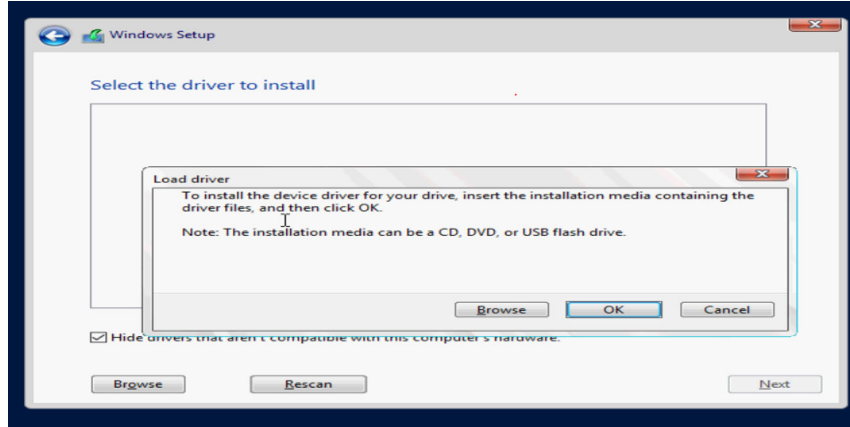

Figure 6-18. Windows Setup: Selecting Driver to Install
- a. Click **Load driver**, and then click **Browse** (see Figure 6-18).